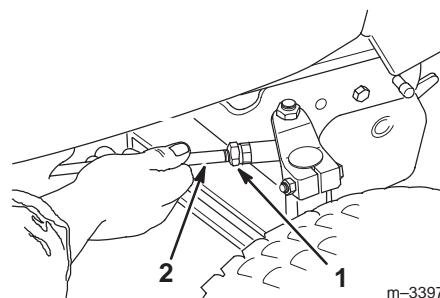

Figure 42
1. Loosen the jam nuts at the ends of the steering rods (Fig. 42).